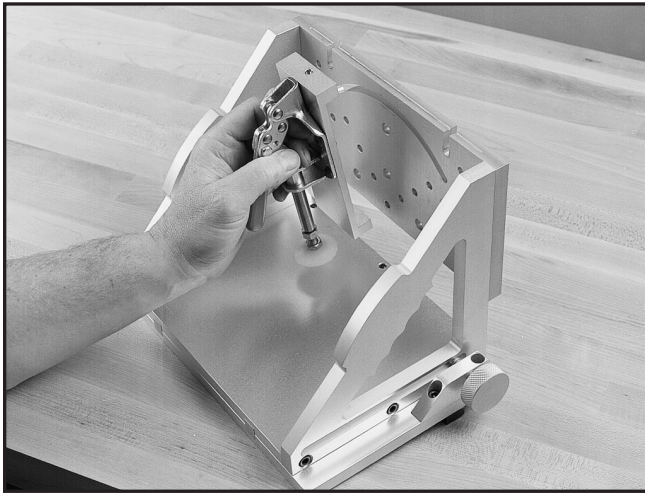

Figure 3. Mounting the clamping bracket to the Shop Fox®.
4. Snap the toggle clamp bracket onto the inside vertical plate of the Shop Fox®. Figure 3.